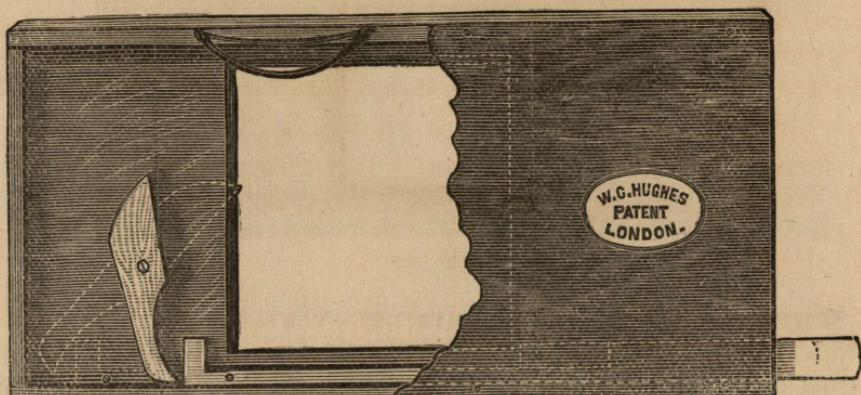

Fig. 52.
**Self-Centring Carrier** (Fig. 52) has the advantage of being stationary in the lantern, and when once placed so that it occupies centre of condenser need not again be moved, a slide of any reasonable size, from English  $3\frac{1}{4}$  to American  $3\frac{3}{4}$ , can be placed on the brass runner, and is pushed home against a lever which centres it exactly in the frame, whatever be the size